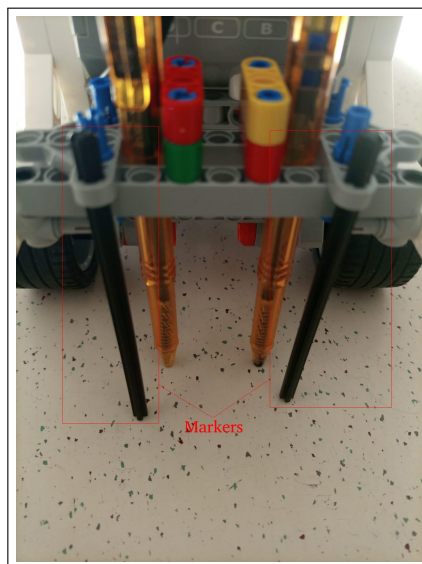
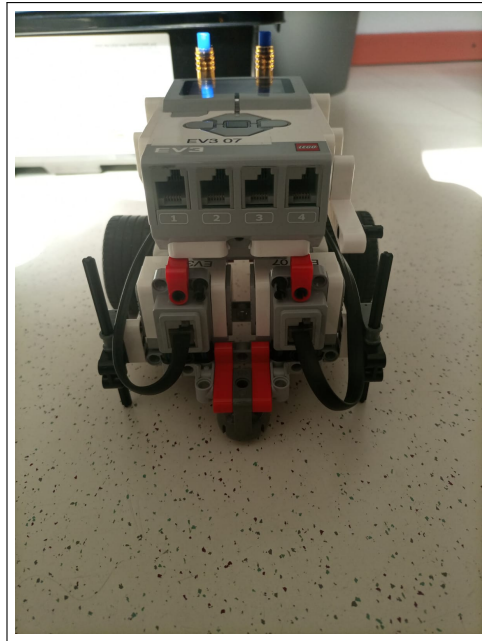

Figure 1.5: Front view of the robot with placed markers
Figure 1.6: Rear view of the robot with placed markers
- To ensure that the starting position of the robot for each trial run remains the same, 4 markers are added with 2 at the front (Figure 1.5) and 2 at the back (Figure 1.6).